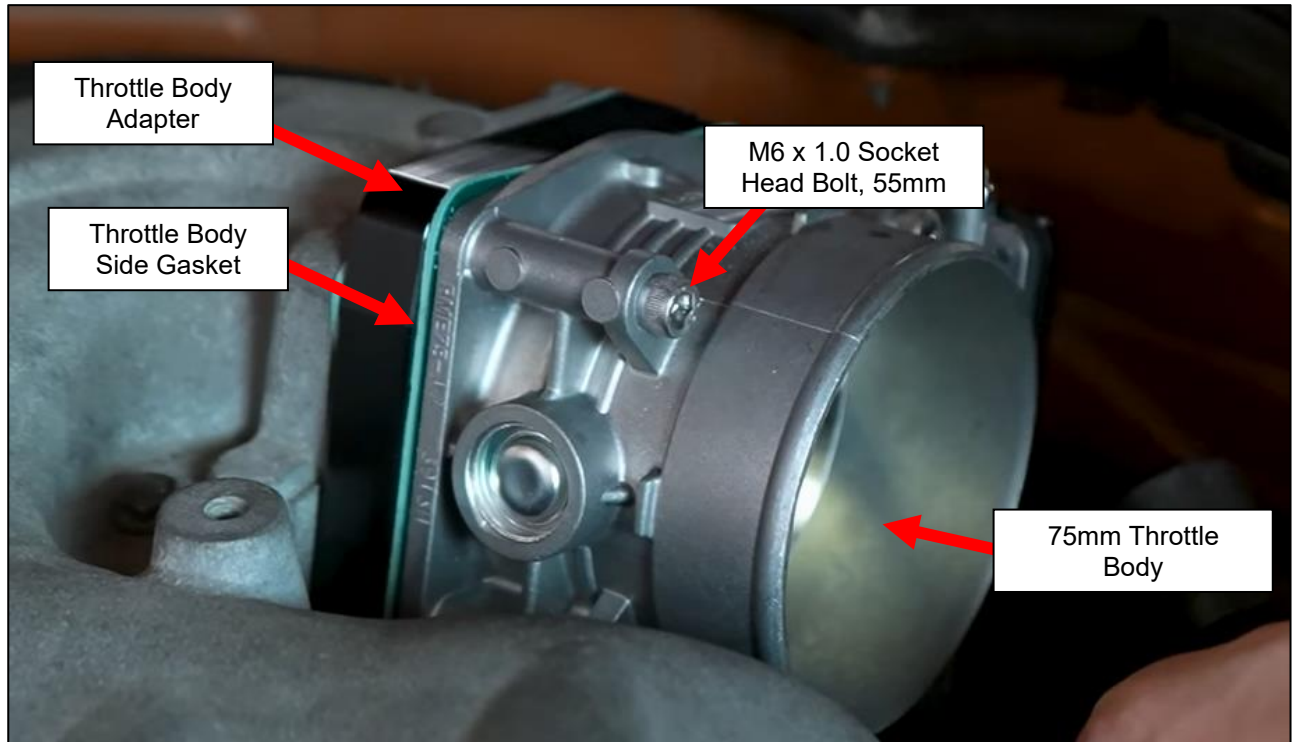

Figure 3
7. Locate the 75mm Throttle Body, Throttle Body Side Gasket and (4) four M6 x 1.0 Socket Head Bolts, 55mm. Install the new Throttle Body and Throttle Body Side Gasket to the Throttle Body Adapter. Secure with the (4) four M6 Bolts. Torque the M6 Bolts to **7 ft-lbs**. *Figure 3*.